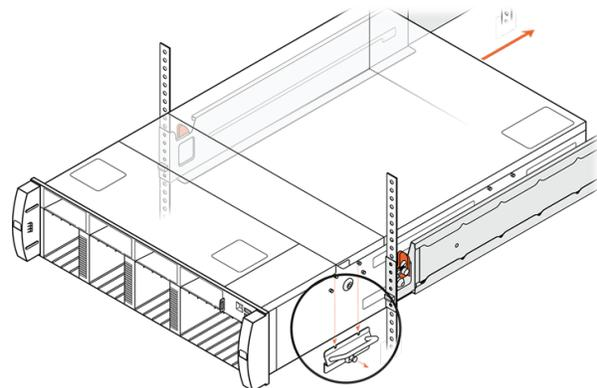

Figure 11-15. Installing the Replacement Chassis, Part 2
3. Slide the chassis on the rails until the front handles approach the rack. Continue to support the front of the chassis while you remove the front handles. See Figure 11-15.